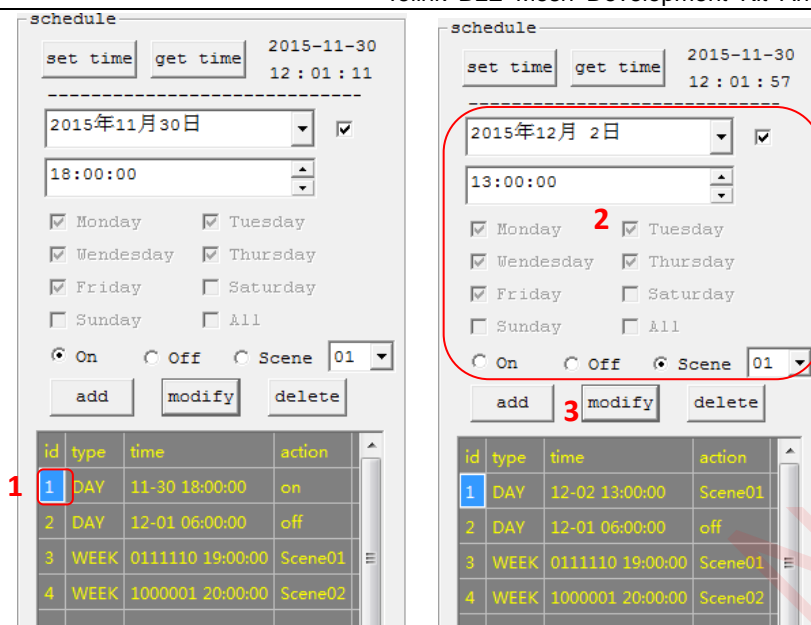

Figure 35 Modify alarm clock 1
- Click the id number (as shown in mark 1 of Figure 35) of the alarm clock to be modified in the list window, and modify the parameters as needed (as shown in mark 2 of Figure 35).
- Then click the “modify” button (as shown in mark 3 of Figure 35).